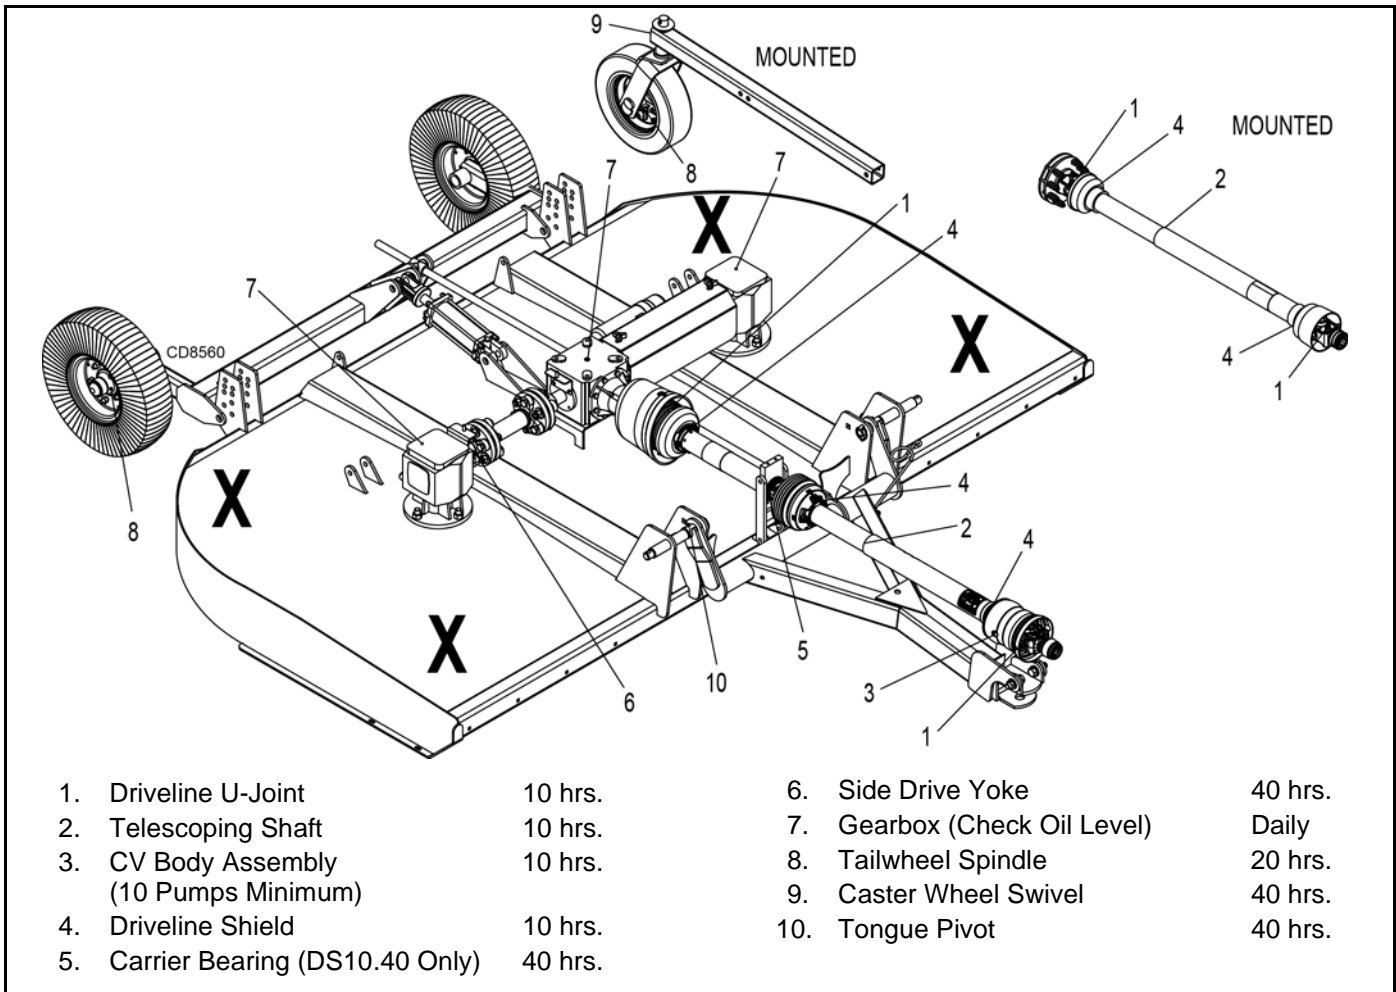

Figure 11. Jackstand Placement and Lubrication Points
1. Jackstands with a load rating of 1000 lbs. or more are the only approved blocking device for this cutter. Install a minimum of four jackstands (shown by Xs in Figure 11) under the cutter before working underneath unit.
See Figure 11 for lubrication points and frequency or lubrication based on normal operating conditions. Severe or unusual conditions may require more frequent lubrication.
2. Raise cutter and block securely. (See Figure 11).
3. Align crossbar (5) with blade access hole in the cutter frame. Remove cap screw (27), blade pin lock clip (13), keyhole plate (12), and shims (10 & 11). Carefully drive blade pin (9) out of crossbar.
4. Rotate crossbar (5) and repeat for opposite blade.